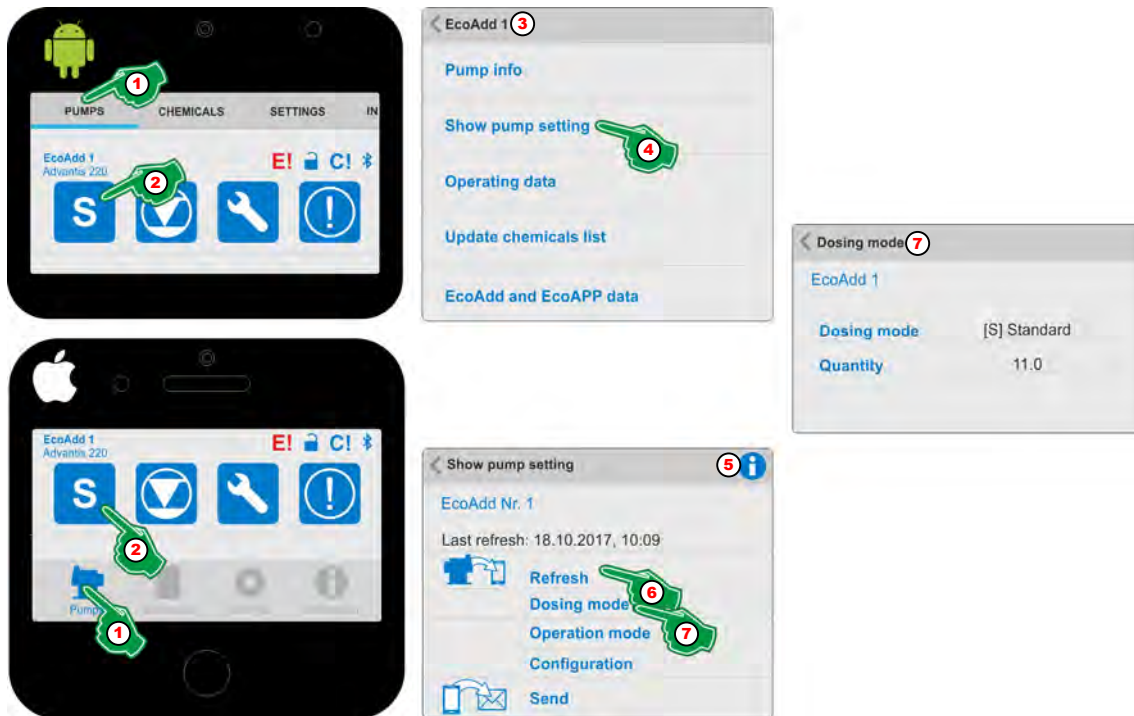

Fig. 24: Show pump settings - Metering mode
1. ▶ Select Menu [Pumps] (Fig. 24 , Pos. 1).
2. ▶ Select Symbol 'Dosing mode' (Fig. 24, Pos. 2).
3. ▶ To check which pump is currently displaying data, click on header (Fig. 24, Pos. 3) in which the selected pump is displayed.
4. ▶ Select [Show pump settings] (Fig. 24, Pos. 4).
5. ▶ With selection of the [Info] ⓘ symbol (Fig. 24, Pos. 5) symbol, the following information appears:
6. ▶ Select [Refresh] (Fig. 24, Pos. 6).
7. ▶ Select [Dosing mode] (Fig. 24, Pos. 7).